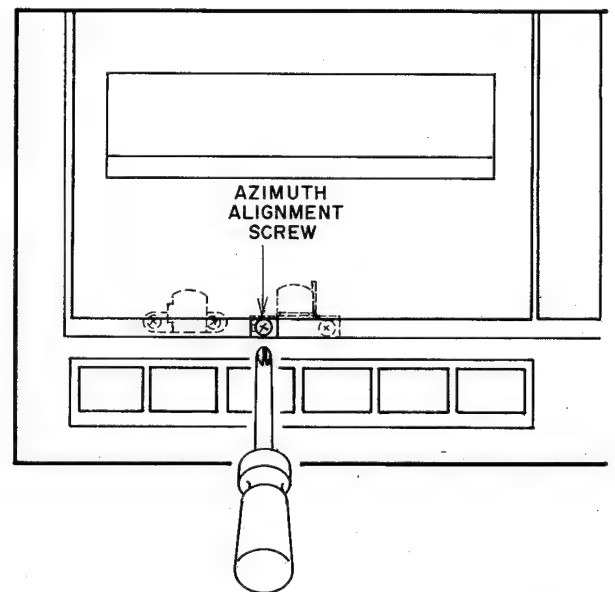

Fig. 5-4
2. Playback a 3150Hz pre-recorded Test Tape (AT-751263) and adjust a Tape Speed adjustment volume (See Fig. 5-4) to obtain a tape speed of  $3150\text{Hz} \pm 30\text{Hz}$ .
3. Playback a 3150Hz pre-recorded Test Tape (AT-751263) and adjust a Tape Speed adjustment volume (See Fig. 5-4) to obtain a tape speed of  $3150\text{Hz} \pm 30\text{Hz}$ .